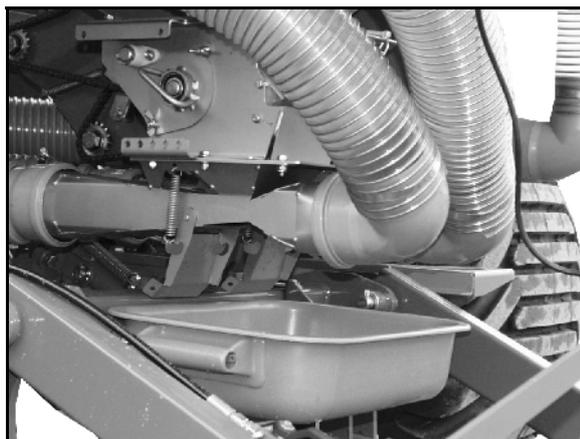

Fig. 94
3. Calibrate the seed: Rotate the calibration trough and push back onto the bracket (Fig. 94).